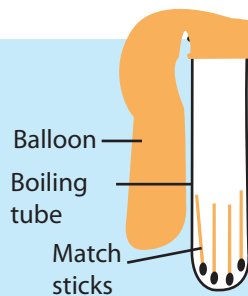

Figure 8.6 ▲
- As shown in Figure 8.6, close the mouth of the boiling tube containing matches with a balloon. Measure its mass.